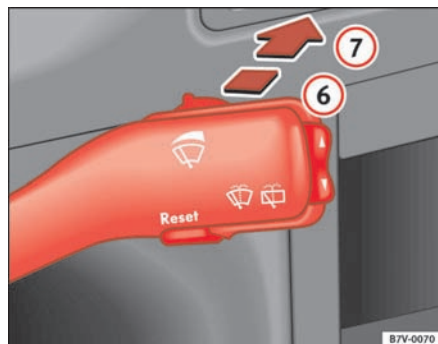

Fig. 81 Windscreen wiper and windscreen wash lever
- Press the lever forwards to position ⇒ **fig. 81 6**. The wiper will wipe the window approximately every 6 seconds.
- Press the lever fully forwards to position ⇒ **fig. 81 7**. The rear window washer starts to work immediately while the rear window wiper starts a little later and continues working while the lever is in this position.